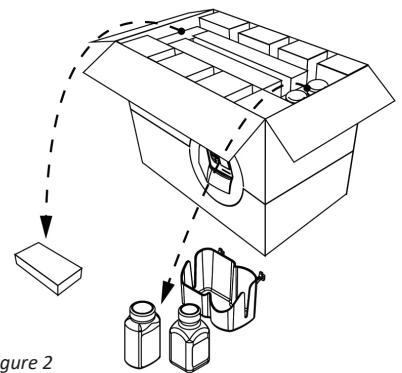

Figure 2
2. Remove the Power Supply and set aside (Figure 2).
3. Remove the miniiWASH and miniiWASTE Bottles and Bottle Tray and set aside (Figure 2).